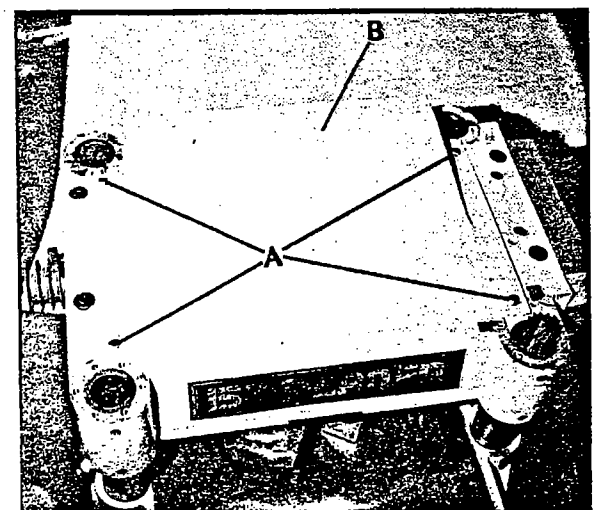

Fig. 21
2. Remove four screws, which are shown at (A) Fig. 21, and remove top cover (B).